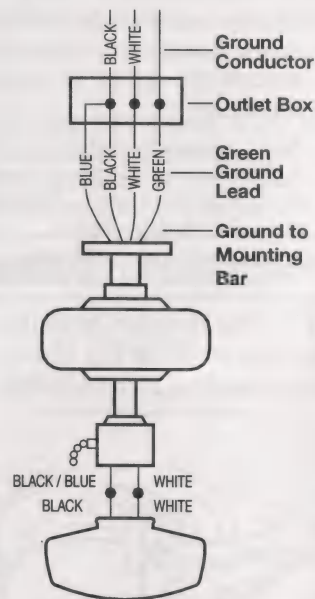

Figure 9
1. Connect the ground conductor of the 120V supply (this may be a bare wire or a wire with green colored insulation) to the green ground lead(s) of the fan (Figure 9).
2. Connect the fan motor white wire to the supply white (neutral) wire using a wire nut (Figure 9). Connect the fan motor black wire to the supply black (hot) wire using a wire nut (Figure 9). Do not connect the blue wire from the fan unless you are installing an optional light kit at this time, connect the blue wire and the black wire from the fan to the black household supply wire. Otherwise, cap off the blue wire with a wire nut.) Your fan is now wired to be turned on and off from the pull chain switch. Turn wire nut connections upward, spreading them apart so green (ground) and white wires will be on one side of the outlet box and black and blue wires will be on other side, and push up into outlet box.